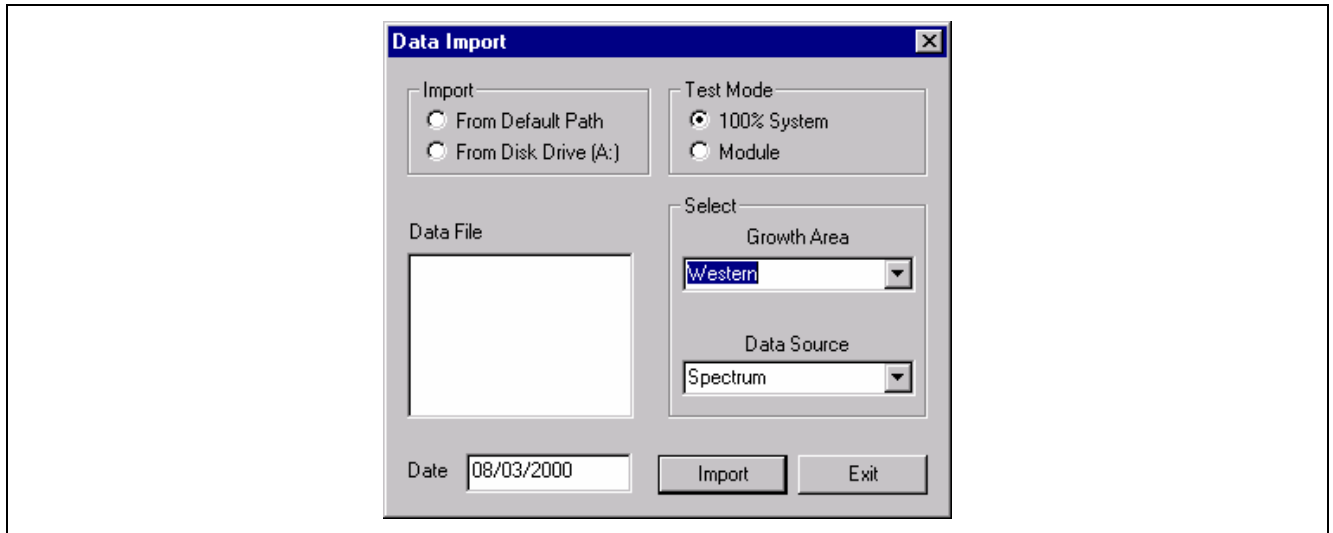

Fig. 6-30 Data Import, Screen I
10.1 The Data Import window will appear (Fig. 6-30).